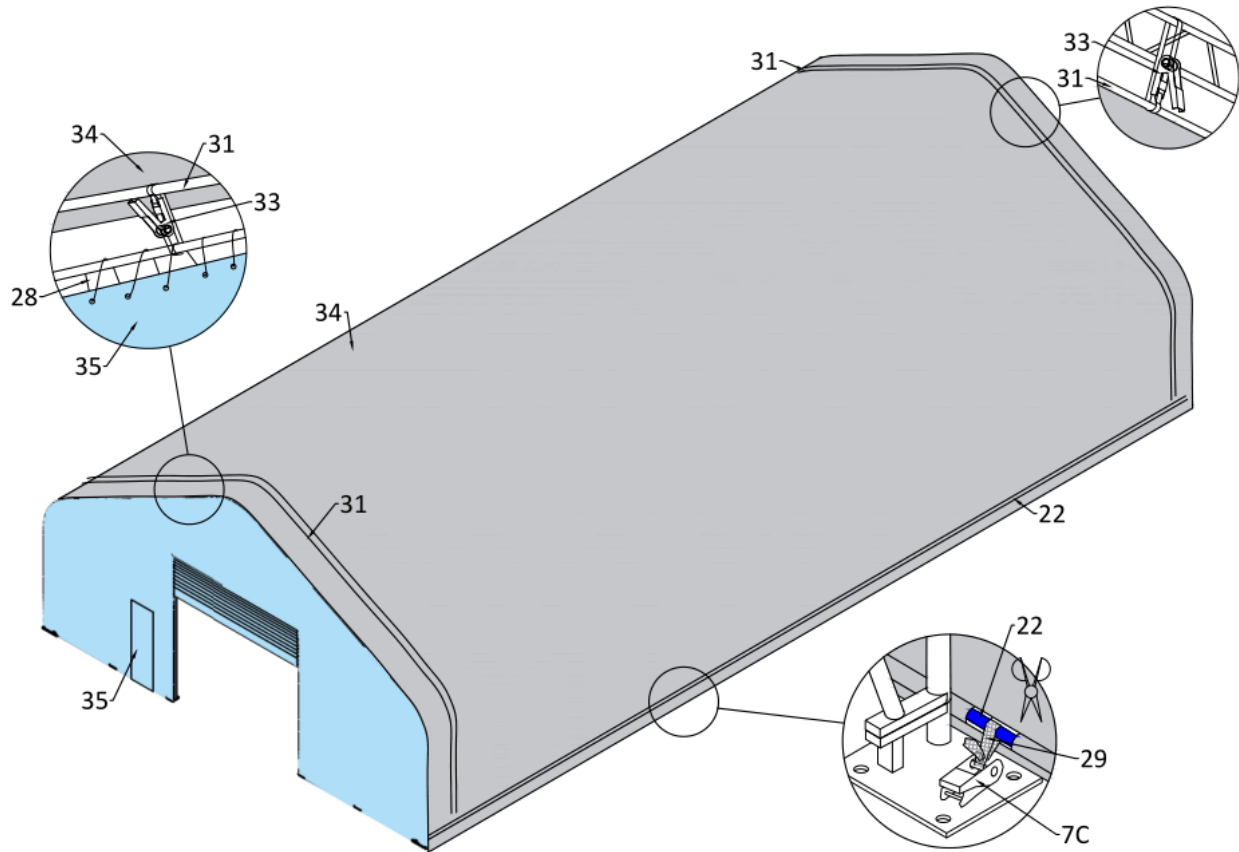

Figure 12
- **DO NOT TIGHTEN.** Adjust the cover so that it is square and evenly centered on the frame. Put on and fix the roof cover together with front cover, as same as the back cover. Insert the Lower tension tube (No. 22) & PPR tube (No. 31), fix them by using rope (No. 28). Finally knit them to use rope as Figure 12 shows.